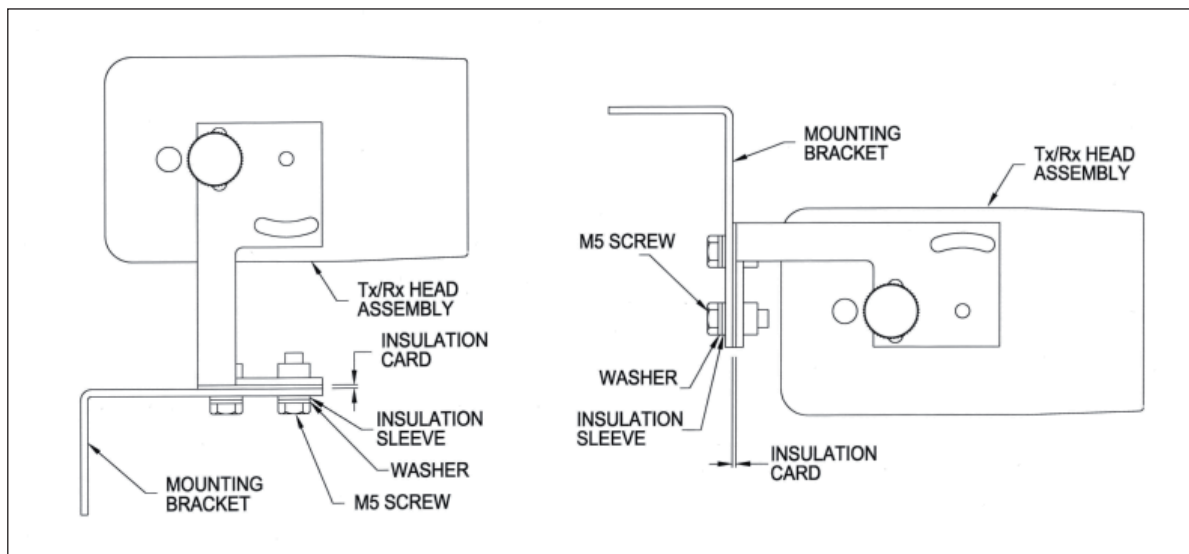

Fig 5 Assembly of the insulation sleeves
3. Ensure that the insulation cards provided are fitted between the mounting bracket and the receiver/ transmitter head assembly and that the insulation sleeves are fitted under the head of the M5 screw (fig 5).